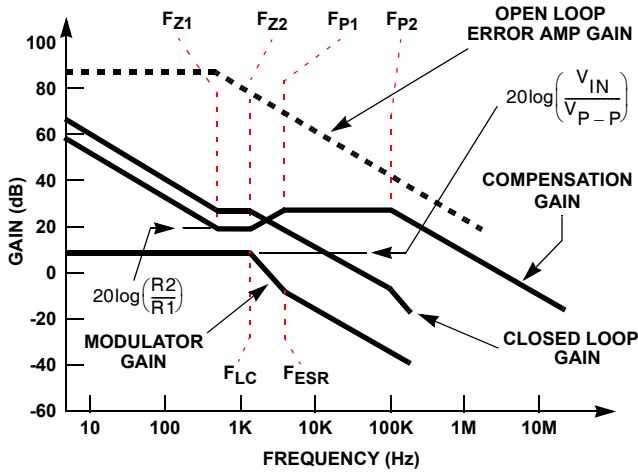

FIGURE 9. ASYMPTOTIC BODE PLOT OF CONVERTER GAIN
Figure 9 shows an asymptotic plot of the DC-DC converter’s gain vs. frequency. The actual Modulator Gain has a high gain peak dependent on the quality factor (Q) of the output filter, which is not shown in Figure 9. Using the above guidelines should yield a Compensation Gain similar to the curve plotted. The open loop error amplifier gain bounds the compensation gain. Check the compensation gain at FP2 with the capabilities of the error
amplifier. The Closed Loop Gain is constructed on the log-log graph of Figure 9 by adding the Modulator Gain (in dB) to the Compensation Gain (in dB). This is equivalent to multiplying the modulator transfer function to the compensation transfer function and plotting the gain.